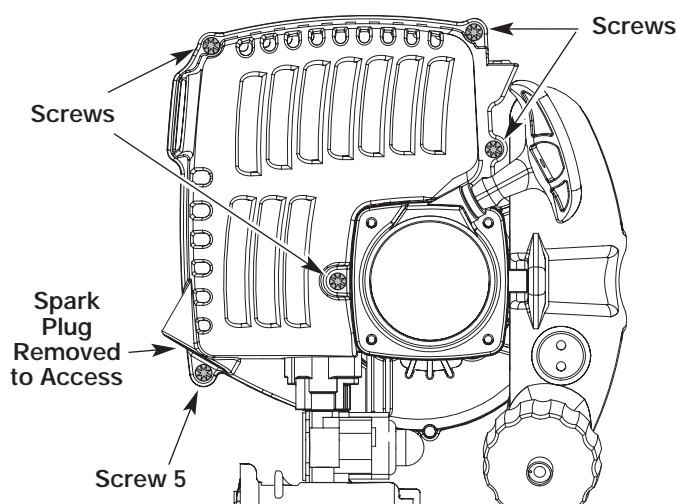

Fig. 13
2. To access the muffler and spark arrestor, you must remove the engine cover. Using a T-25 torx or flathead screwdriver, remove the five engine screws pictured in Figure 13.
NOTE: You will have to remove the spark plug to access one of the engine cover screws (Screw 5) (Fig. 13).